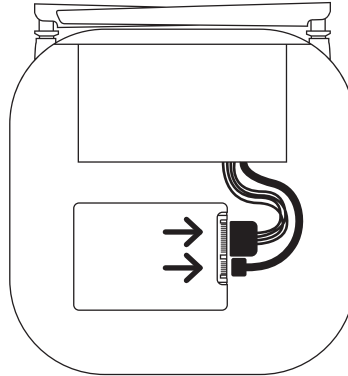

Fig.2
- Connect the SATA hard drive to the correct terminals (power supply, data transmission) - Fig. 2.